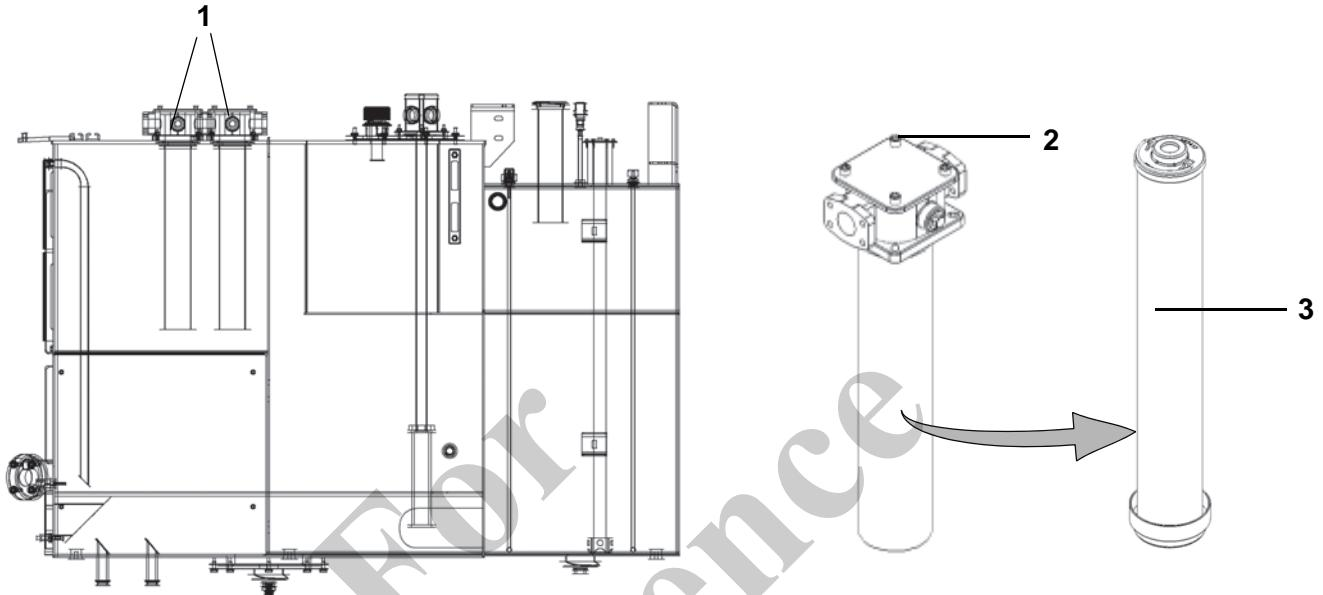

Fig. 18 Return filter
| 1 | Unscrew 4 nuts (2) in Fig. 18 at each of the two return filters (1) in Fig. 18. |
| 2 | Pull out the return filters (1) in Fig. 18. |
| 3 | Remove the filter element (3) in Fig. 18 and dispose of it as hazardous waste. |
| 6 | Insert the return filter (1) in Fig. 18 into the tank and tighten it. |